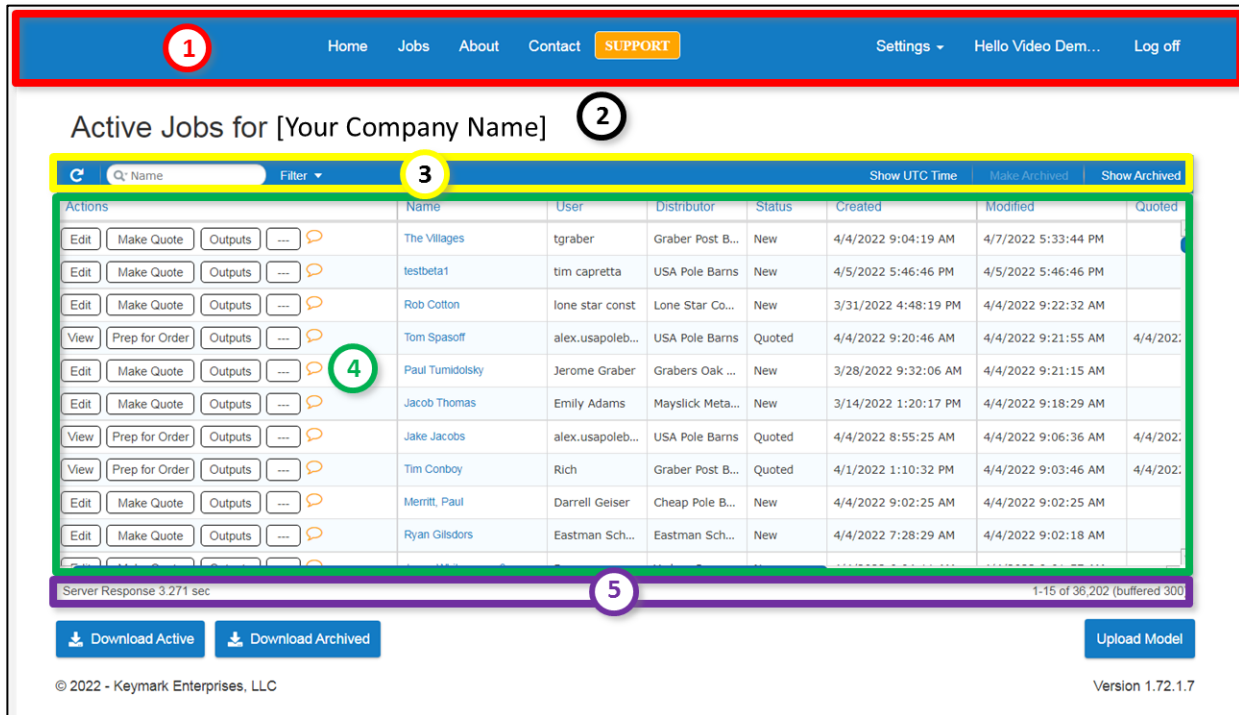

Figure 8: The SmartBuild *Jobs List* page.
The SmartBuild *Jobs List* page provides users with a comprehensive list of all the jobs entered into the system. This page is used to review, edit, and manage all jobs collectively. To open your *Jobs List* page, Log in to SmartBuild and, from your *Homepage*, click on the *Jobs* link in the *Links Menu* at the top of the page. Your *Jobs List* page will open, similar to the one shown in Figure 8, below. Let's take a moment to review the various parts of the *Jobs List* window:
2. **Page Header** – The *Page Header* lets you know where they are within the application at all times. Note that the *Page Header* in Figure 8 says “Active Jobs.” In a moment, we will show you how to toggle this list to *Archived* (completed) jobs.